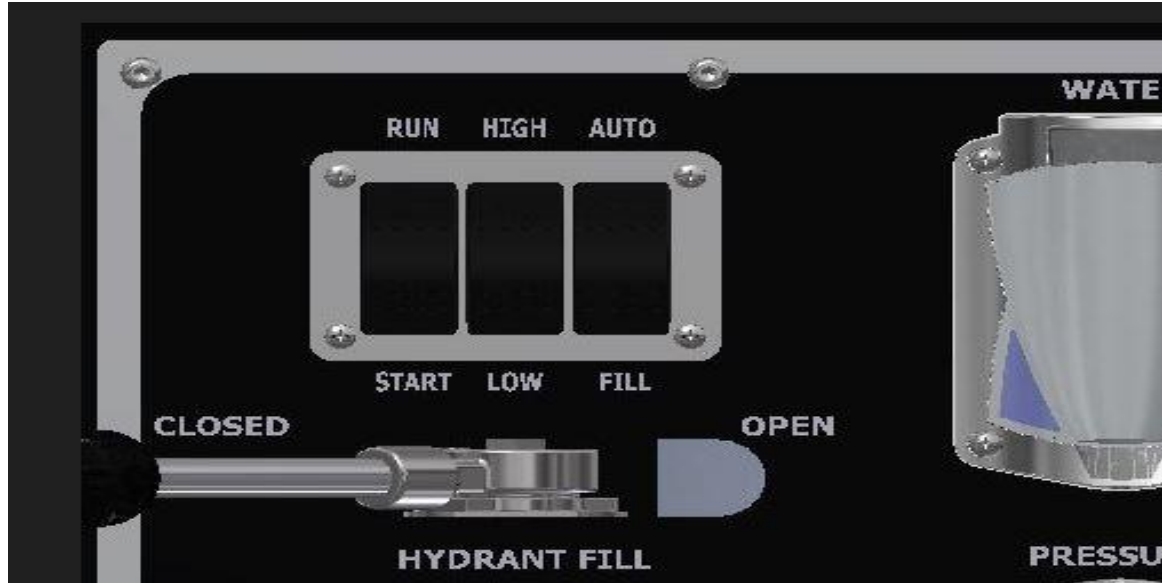

Figure 5.1 – Control Switches
- 7) Before starting the engine, please make sure the system switch is in START Position. Auto Flow in OFF position and Throttle is in OFF position. (See Figure 5.1)